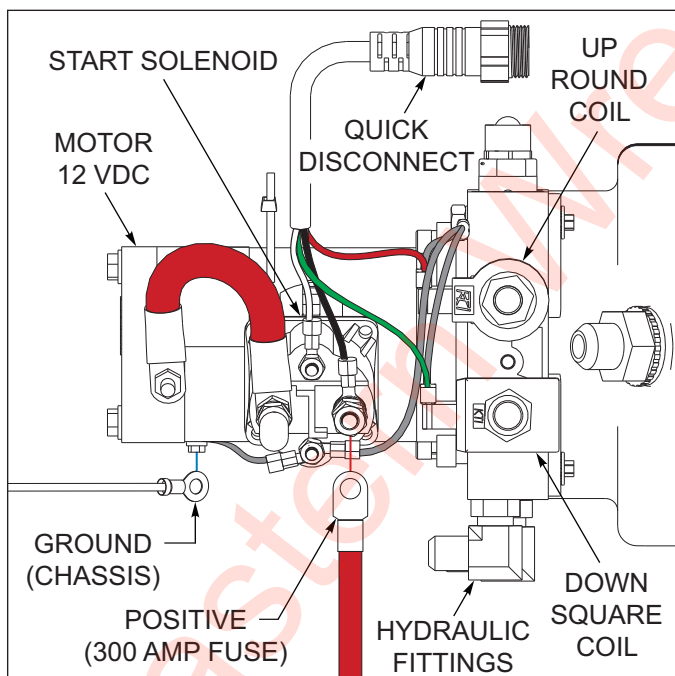

Figure 5-27: Power Unit Start Solenoid
10. Disconnect the 300-amp positive cable terminal from the power unit start solenoid. *See Figure 5-27 on Page 5-52.*
19. Disconnect the remote control quick disconnect from the power unit start solenoid. *See Figure 5-27 on Page 5-52.*
2. Connect the remote control quick disconnect to the power unit start solenoid, **See Figure 5-27 on Page 5-52.** Or **refer to Installation Instructions-12vdc Double-Acting - INST0003 Dec 2015 listed on Page 7-1.**
7. Connect the remote-control extension cable to the power unit quick disconnect. **See Figure 5-27 on Page 5-52.** Or **refer to Installation Instructions-12vdc Double-Acting - INST0003 Dec 2015 listed on Page 7-1.**